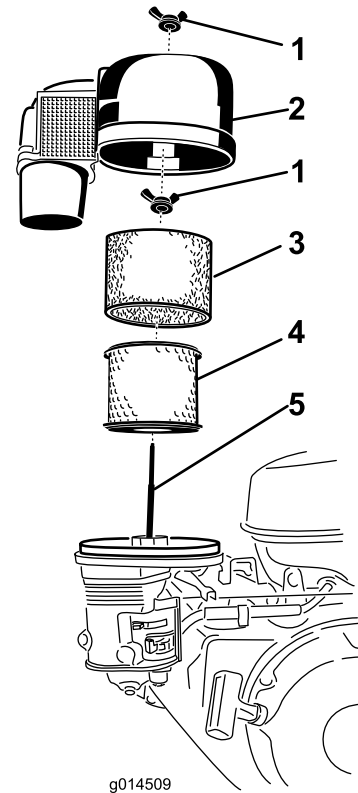

Figure 14
3. Remove the wing nut and lift off the air-cleaner cover with the air-filter cowling (Figure 14).
4. Remove the foam element (Figure 14).
5. Remove the wing nut on top of the paper element and remove the paper element (Figure 14).
1. Clean the paper element by tapping it gently to remove dust. If it is very dirty, replace the paper element (Figure 14).